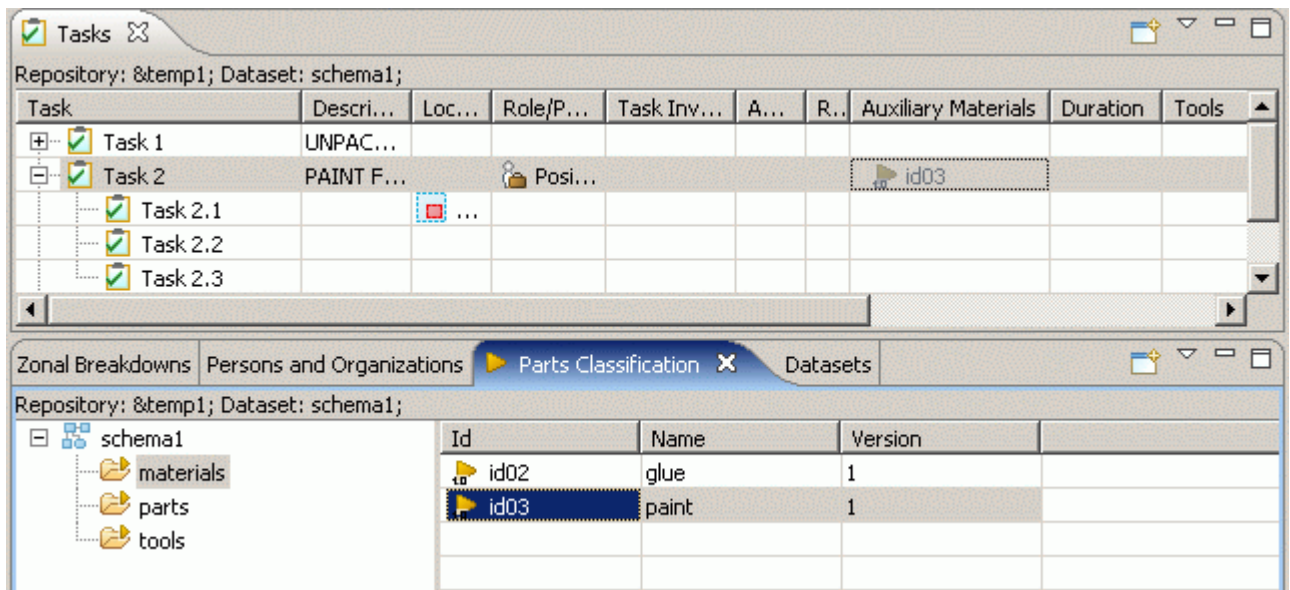

Figure 2. Selected part dragged onto task
- Drag the selected object onto the **Auxiliary Materials** column of an applicable ✓ task in the ✓ **Tasks** window. A transparent icon and name of the selected object appear while dragging (see Figure 2).